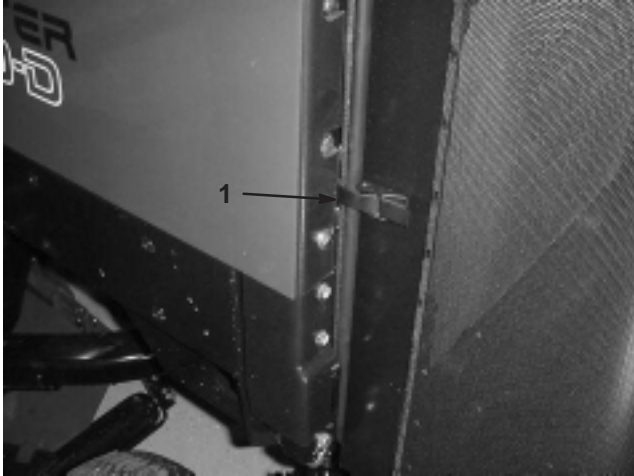

Figure 36
1. Unlatch and swing open rear screen (Fig. 36). Clean the screen thoroughly of all debris.